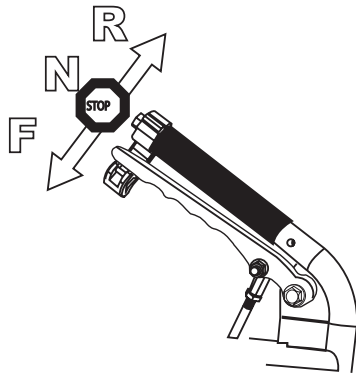

Figure 4
2. Refer to Figure 4 for the following instructions.